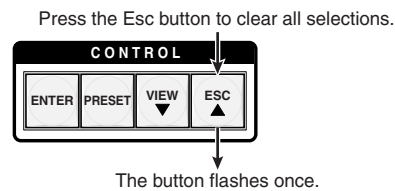

Figure 3-54 — Clear all selections
- Press and release the Esc button (figure 3-54).